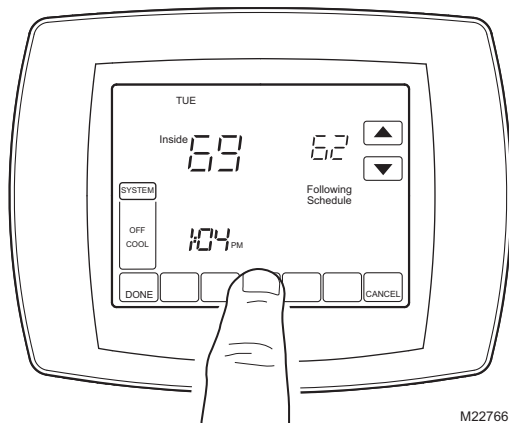

Fig. 11. Entering Field Service mode.
2. Press and hold the center bottom key for approximately five seconds (see Fig. 11).